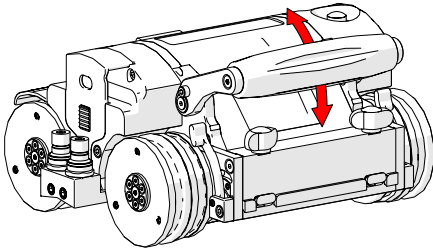

Fig. 62 - Pivot handle as desired
2. Pivot the handle as required (Fig. 62).